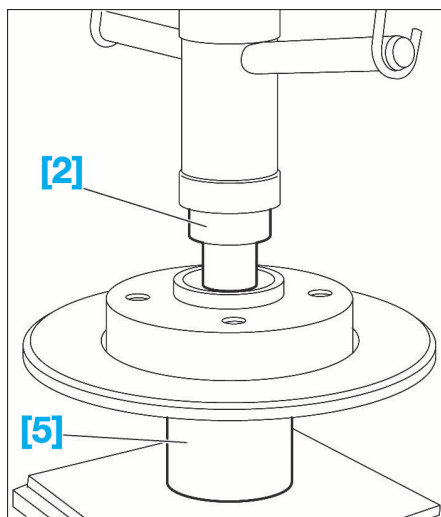

FIG. 41
- Poser les outils [2] (mandrin Ref. 0526-X) et [5] (mandrin Ref. 0619-F2) (Fig.41).